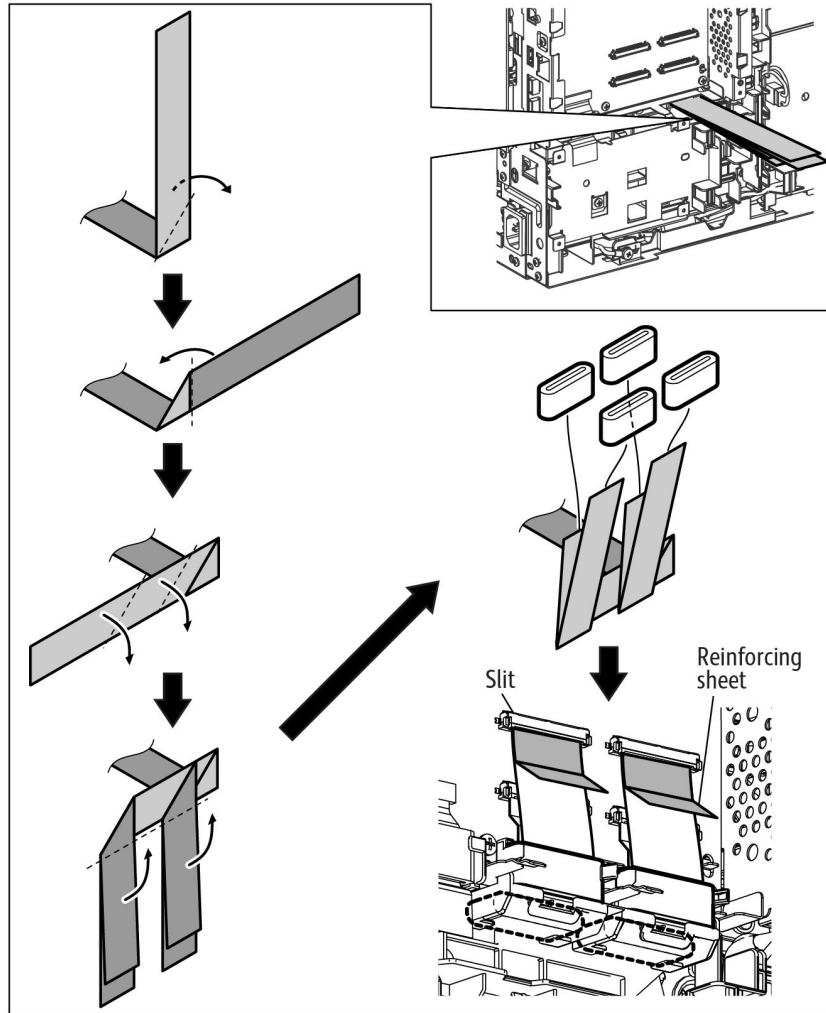

Figure 7 Fold and connect the FFCs
- Before inserting the FFC into the connector, bend the reinforcing tab to 90 degrees, then hold the tab to insert the FFC into the slit until hearing a click, Figure 7.